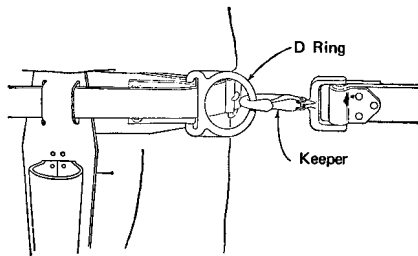

FIGURE 2. View of Craftsman's Right Side
- 3.10 Make sure that the snap hook and D ring are properly engaged. Do not rely on the feel or the click of the keeper in the snap hook; look and know that the snap hook is properly engaged before placing weight on the safety strap. When engaged in the D ring, the keeper of the snap hook on the safety strap must always be away from the body, as shown in Figure 2.